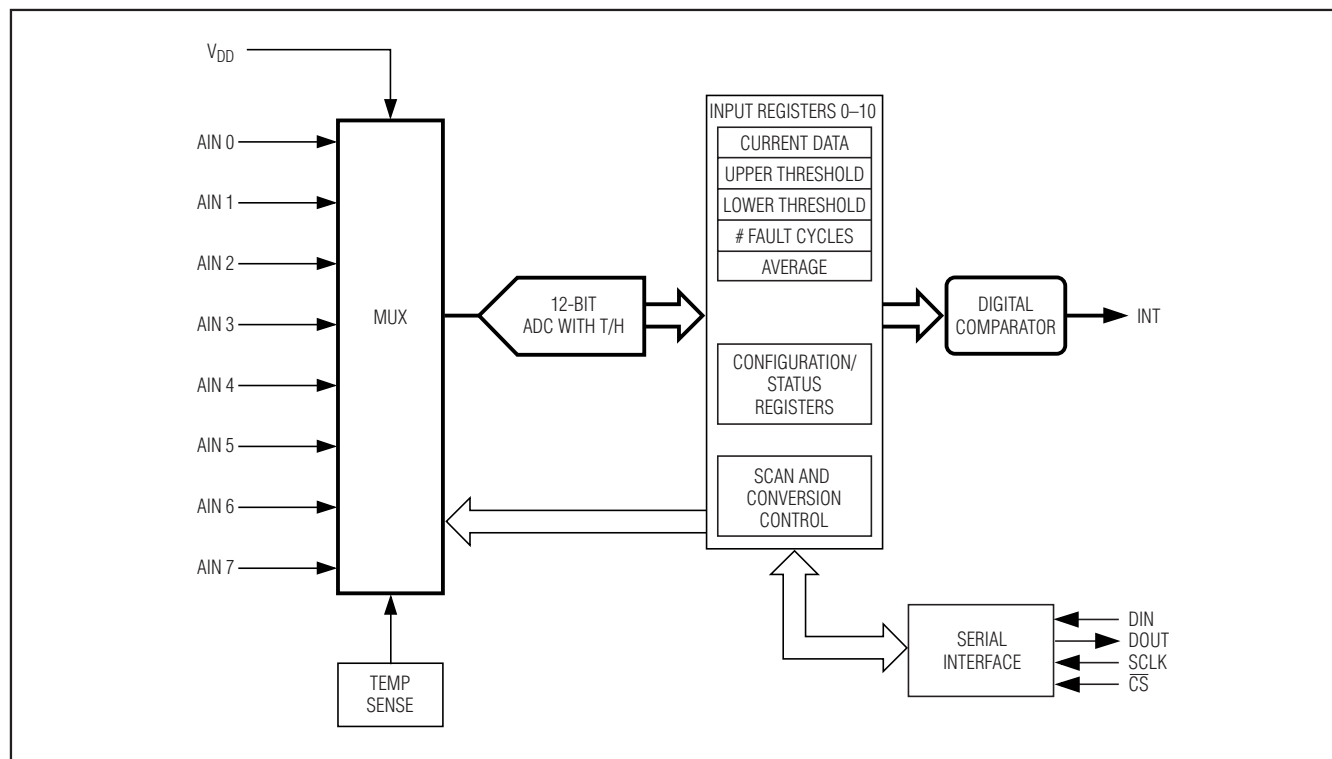

Figure 3. Simplified Alarm Block Diagram of the MAX1153/MAX1154
**Note 7:** See Figure 3 and the Sampling Error vs. Input Source Impedance graph in the *Typical Operating Characteristics* section.
The MAX1153/MAX1154 are precision-monitoring integrated circuit systems specifically intended for stand-alone operation. They can monitor diverse types of inputs, such as those from temperature sensors and voltage signals from pressure, vibration, and acceleration sensors, and digitize these input signals. The digital values are then compared to preprogrammed thresholds and, if the thresholds are exceeded, the processor is alerted by an interrupt signal. No interaction by the CPU or microcontroller ( $\mu$ C) is required until one of the programmed limits is exceeded (Figures 3 and 4).